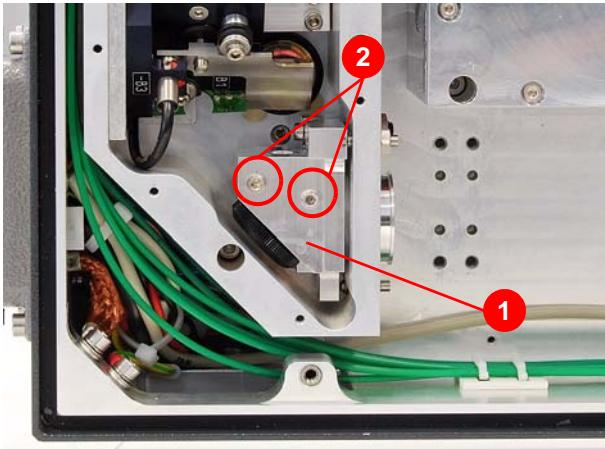

Figure 4.37 Removing the lower deflecting mirror (1)
5. Dismantle the retaining block (1) (Figure 4.37) for the lower deflecting mirror after first loosening the two fastening screws (2).